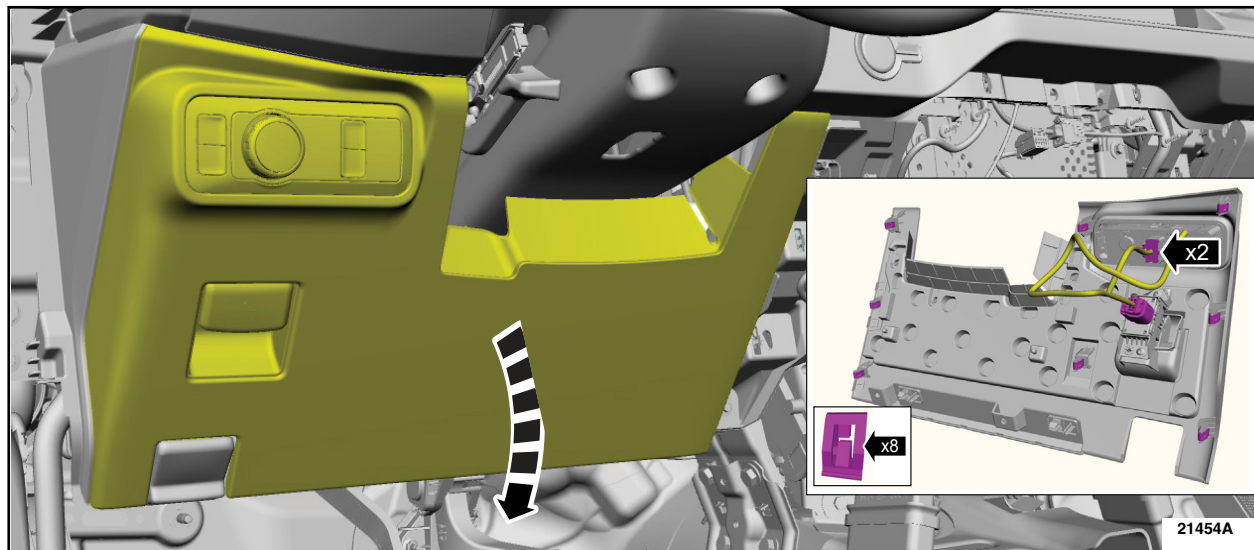

FIGURE 1
2. Release the clips and lower the steering column trim panel. Then disconnect the electrical connectors and fully lower the trim panel. See Figure 1.